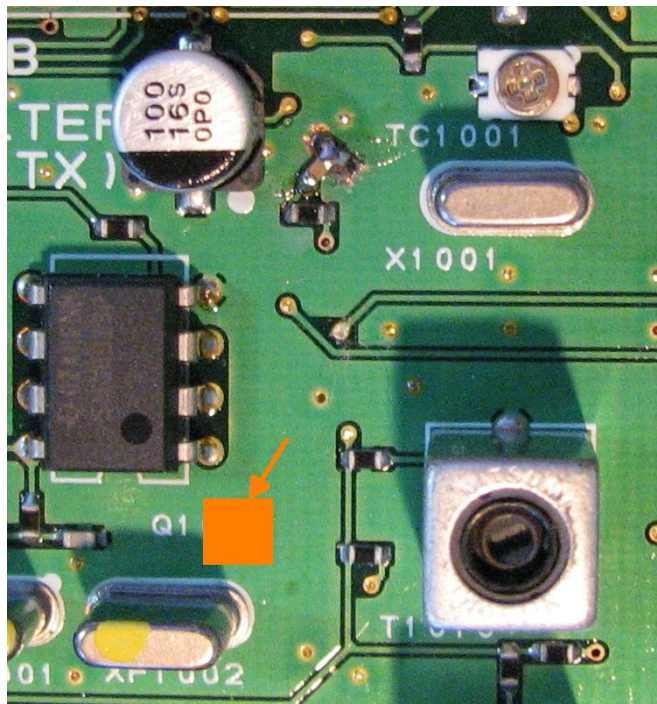

Figure 5 – Ground Area
5. Scrape away the green protective layer on the earth plane in the orange area in Figure 5. Tin the area with solder.
9. Solder R1109 in, standing vertically, with one end soldered to the oscillator end of the existing pads (right pad in Figure 5).